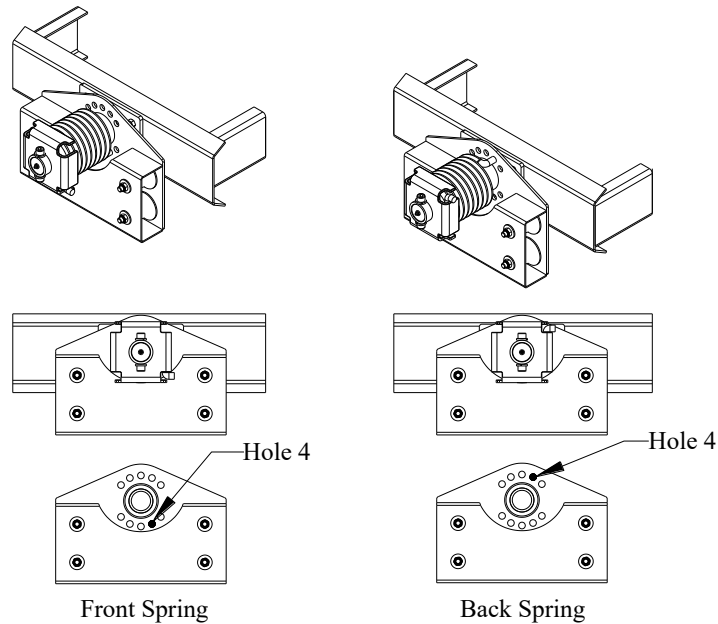

Figure 6.4 Over the Hoods
- b) **Over the Hoods (Sealed) Tarp** Slide the Hub Spring –LH (White) onto the front Roller Plate Assembly and align the spring into hole# 4 from the bottom left side of the Roller Plate Assembly. **Refer Figure 6.4.**
- b) **Over the Hoods (Sealed) Tarp** Slide the Hub Spring –RH (Black) onto the front Roller Plate Assembly and align the spring into hole# 4 from top left of the Roller Plate Assembly. **Refer Figure 6.4**